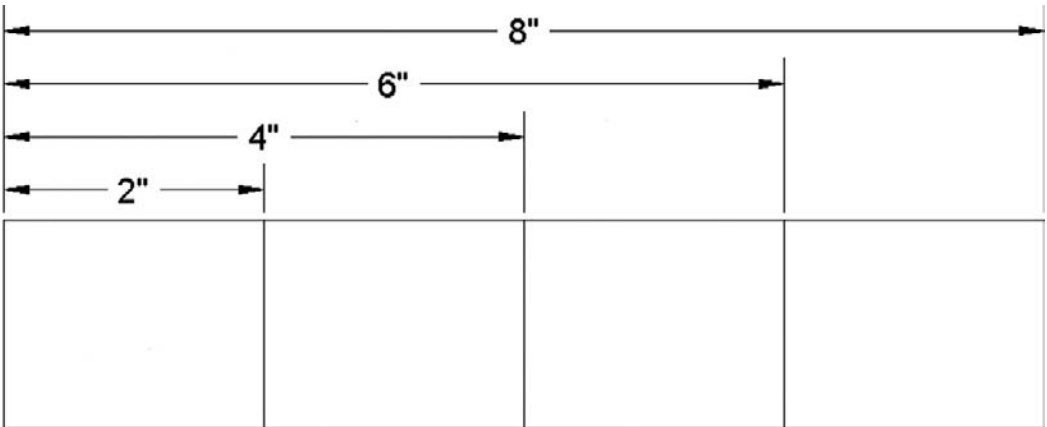

FIGURE 6.12
- Step 3.** You can continue this until you run out of objects to dimension; at that point, just press Esc. Your result is shown in Figure 6.12.